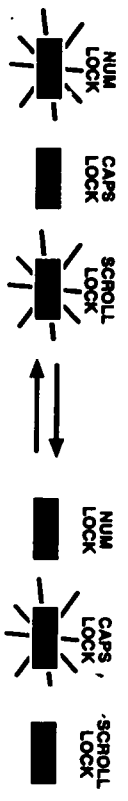

Figure 5-3. The password-lockout LED pattern.
- **Password-lockout indication—lightbar flashing.** As shown in Figure 5-3 below, while the Extender is locked and waiting for the user to enter a password (see Sections 4.4 and 5.1), it alternately lights the Num Lock/Scroll Lock LED pair and the Caps Lock LED on the primary keyboard. This pattern of flashing alternate LEDs is similar to that of the lights in the lightbar of a police car. Once you type in the correct password and press [Enter], these LEDs will stop flashing and return to their previous states.